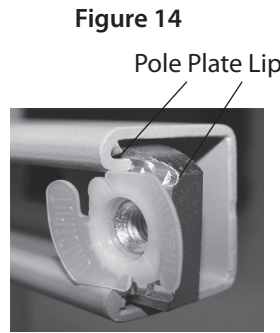

Figure 14
- A. Align the channel of the Unistrut Nut with the Mounting Bar Lip (Figure 14).